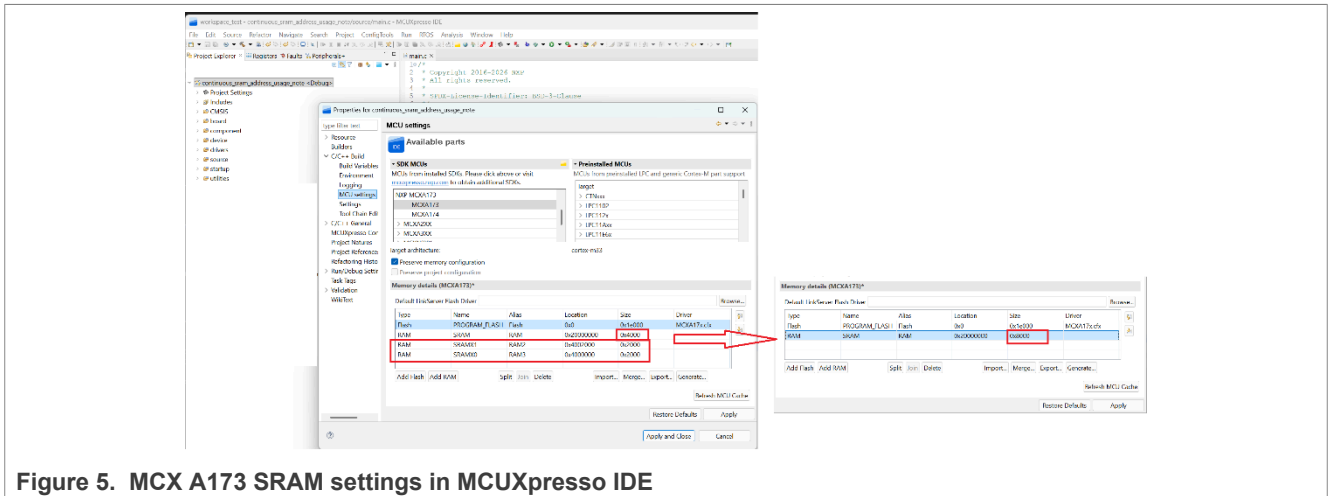

Figure 5. MCX A173 SRAM settings in MCUXpresso IDE
- For MCX A173, as shown in Figure 5: